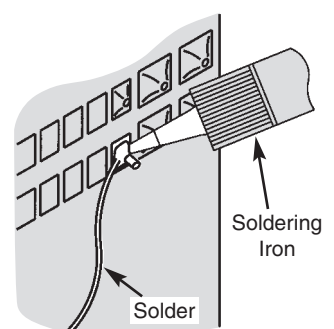

Figure 8b
3. Apply a small amount of solder to the tip. Immediately apply solder to the opposite side of the connection, away from the iron. Allow the heated wire and circuit foil to melt the solder (see Figure 8b).